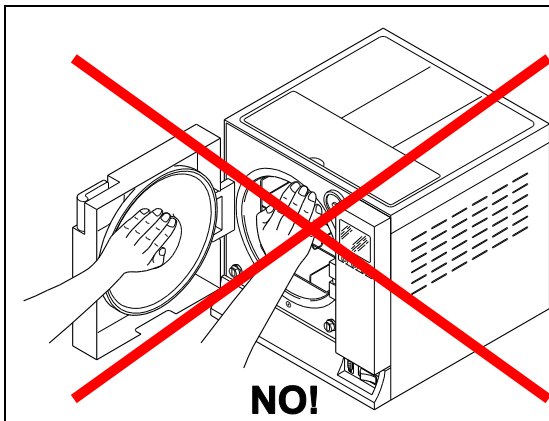

Fig. 3.4-1
The manual is divided into chapters and sub-chapters; the figures are numbered with the chapter to which they refer, with the addition of a progressive number. Eg.: Fig. 3.4-1 (figure n°1 relative to chap. 3.4).
1. When the **sterilizer** finishes the sterilization cycle and the door is opened to remove the sterilized instruments, the inner parts of the boiler and door are still very hot. Do not touch these directly in order to avoid getting burnt (Fig. 3.4-1). Use the relative extractor tool (chap. 3.3 "Safety devices").